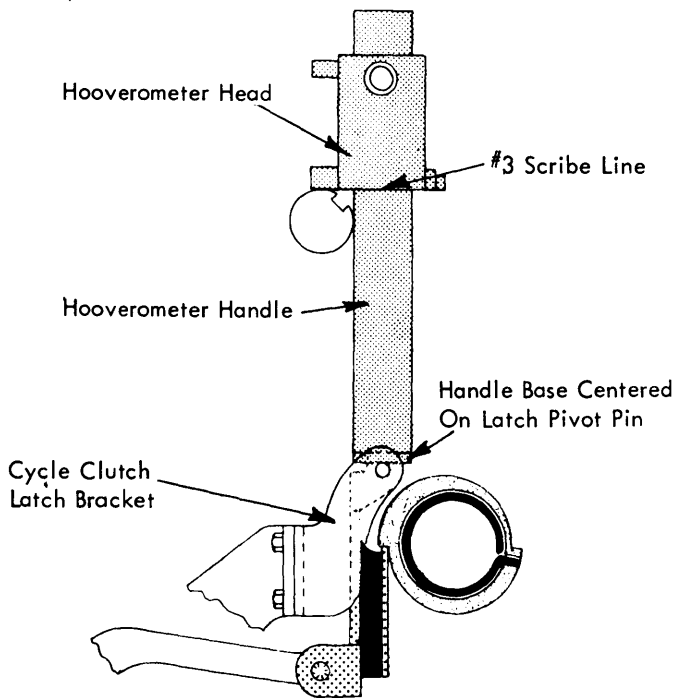

FIGURE 28. Cycle Clutch Latch Bracket Adjustment
- Cycle Clutch Latch Bracket - Adjust the bracket vertically so that the steps of the cycle clutch sleeve are horizontal when the sleeve is stopped by the latch (Fig. 28).
When properly adjusted the top of the latch pivot pin is 1.546" below the top of the print shaft. This distance can be measured with the use of the Hoovermeter. With the head of the Hoovermeter set at the #3 scribe line, the head should rest on top of the print shaft with the handle touching the latch pivot pin (Fig. 28). Be sure the Hoovermeter handle is vertical. It will be vertical if the base of the handle is centered over the latch pivot pin.